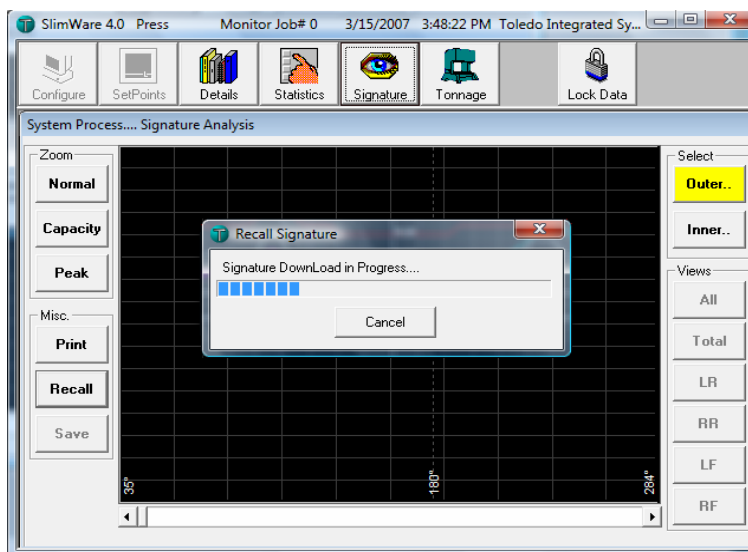

Figure 9.4 - Signature DownLoad in Progress Prompt Box
- The **Signature DownLoad in Progress** prompt box will appear, showing the active progress of the signature data download (refer to Figure 9.4).